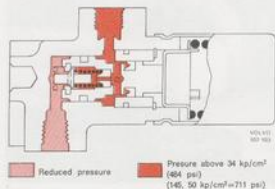

Fig. 5-42. Reducing action
cylinder and front wheel cylinders, the hydraulic pressure in cylinder (5) moves the piston to the left so that the valve rod comes up against its stop and opens the valve, this causing the pressure in cylinder (11) to increase. Due to the larger pressure surface in this cylinder, the plunger is moved to the right again and the valve closes. In this way, the piston assumes a position of balance and the outgoing pressure from the brake valve will be lower than the incoming pressure, see Fig. 5-42. The difference in these pressures is determined by the different areas and spring tension.